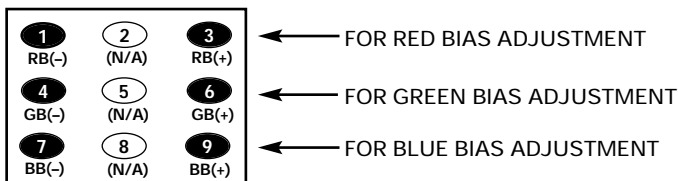

Figure 3.
**Red/Green/Blue Bias Adjustments in Service Menu NO. B0 (No Vertical Sweep):** Adjust each Bias Level with 1, 3, 4, 6, 7, or 9 key on the remote control. (See Figure 3.) The Bias Level adjustment data will be written in the Service Menu No. 47 RB, No. 48 GB, and No. 49 BB automatically.